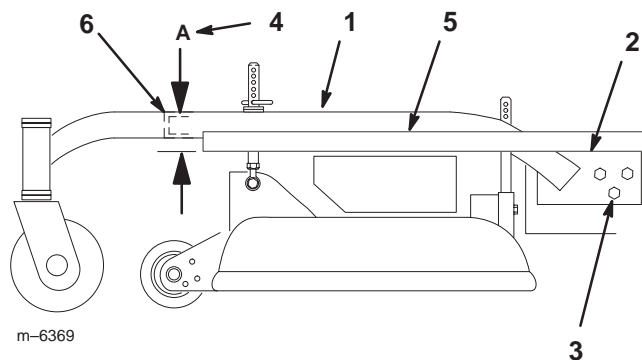

Figure 50
3. Place a long straight edge on top of the engine deck as shown in figure 50.
4. At the carrier frame cross tube, measure location **A** height (Fig. 50). This measurement must be 1-5/16 inch (33 mm), plus or minus a 1/4 inch (6 mm).
6. Loosen the carrier frame mounting bolts on both sides of the machine (Fig. 50).
7. Align the carrier frame and engine deck to match 1-5/16 inch (33 mm), plus or minus a 1/4 inch (6 mm) at location **A** (Fig. 50).